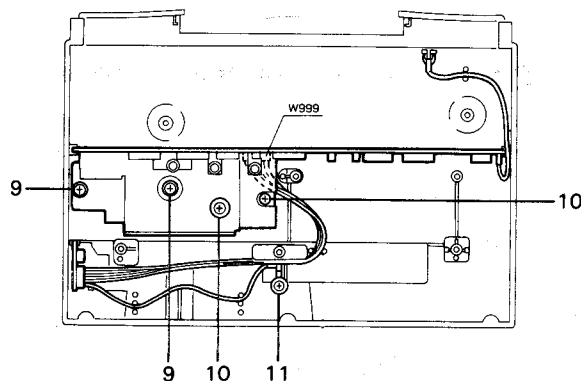

Fig. 7-7
■ Main Amplifier P.C. Board (refer to Fig. 7-7 ~ 7-10)
1. Remove the four screws (9), (10) retaining the main amplifier P.C. board.